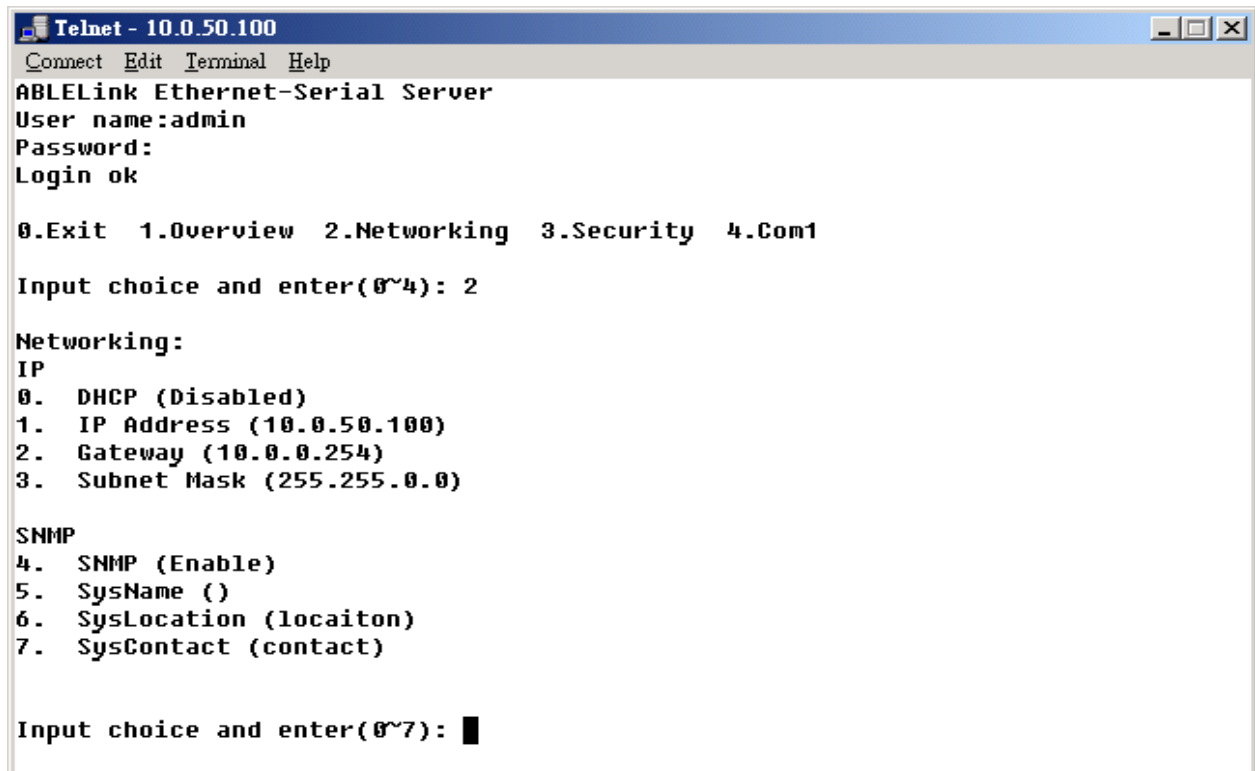

Figure 3.5 Main menu
1. After verifying the password, the following terminal screen appears. (ref Figure 3.5)